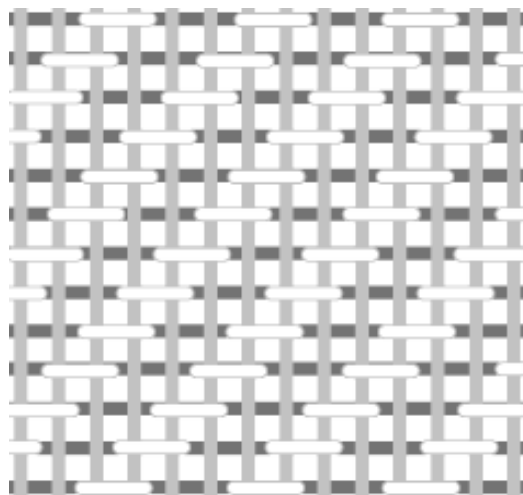

Figure 11.14 A 2/2 twill weave. Source: Wood, 2006.
1. The number of threads that warp yarns and weft yarns float over. For example, in a 2/2 twill (as shown in Figure 11.14), each warp yarn floats over two wefts and each weft floats over two warps